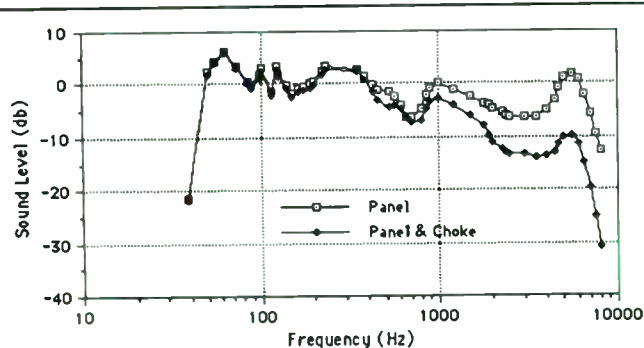

FIGURE 5: Bass panel response at 10 cm.
I next measured the frequency response of the bass panel, using a Beyer dynamic M101N(C) microphone placed 10 cm away. The short distance diminishes secondary reflections and increases the signal/noise level for more accurate measurements. The output was amplified, digitally smoothed, and corrected for microphone sensitivity as a function of frequency. Figure 5 shows the bass response both with and without the choke in series, which ranges within 7dB from 50Hz-